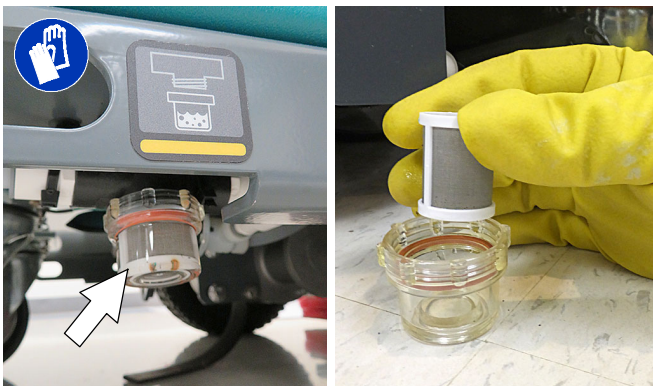

FIG. 119
1. Drain solution tank. Remove the solution tank filter and clean screen (Figure 119). Turn the filter bowl counter-clockwise to remove.